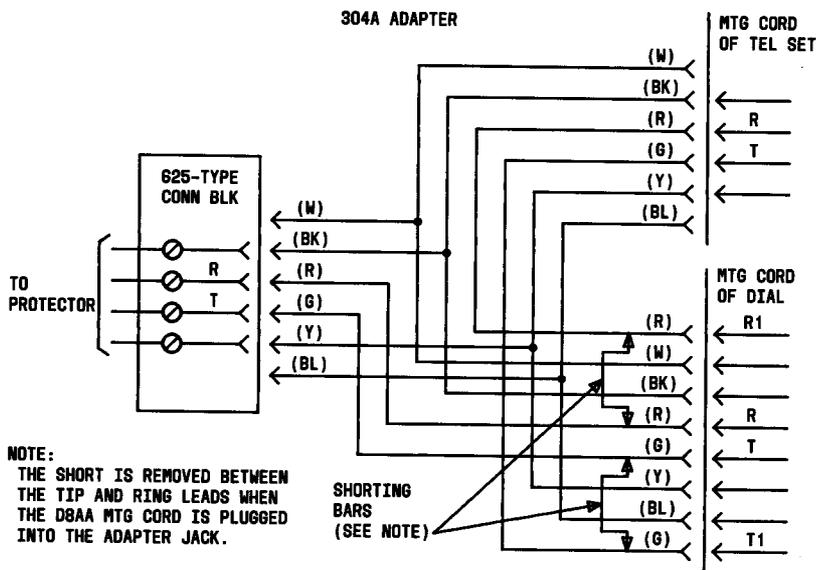

Fig. 4—Layout of 304A Adapter
- (1) Plug the 304A adapter (Fig. 4) into a 625-type connecting block or equivalent.